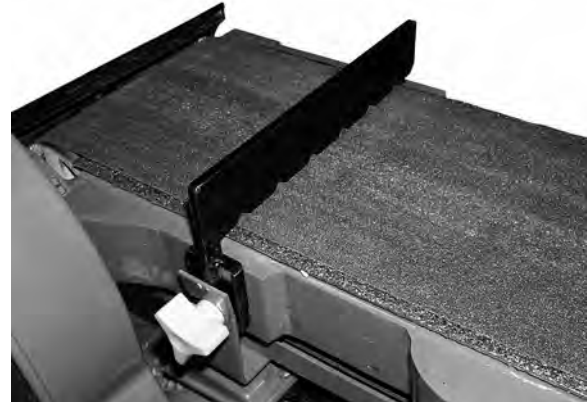

Figure 24
- The backstop (A) Fig.24 comes installed at the rear of the belt table to allow a greater sanding surface on the belt but this position may cause interference with the sanding disc during operations. To avoid this, the backstop can be repositioned to the front of the belt table and locked in place with lock knob (B) as shown in Fig.24.